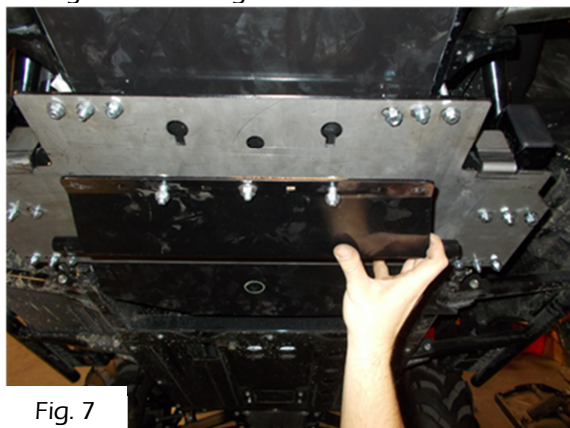

Fig. 7
- 8) Assemble the V-plate  on the main plate by first aligning the rear carriage bolts, then the front carriage bolts. See Figure 7.